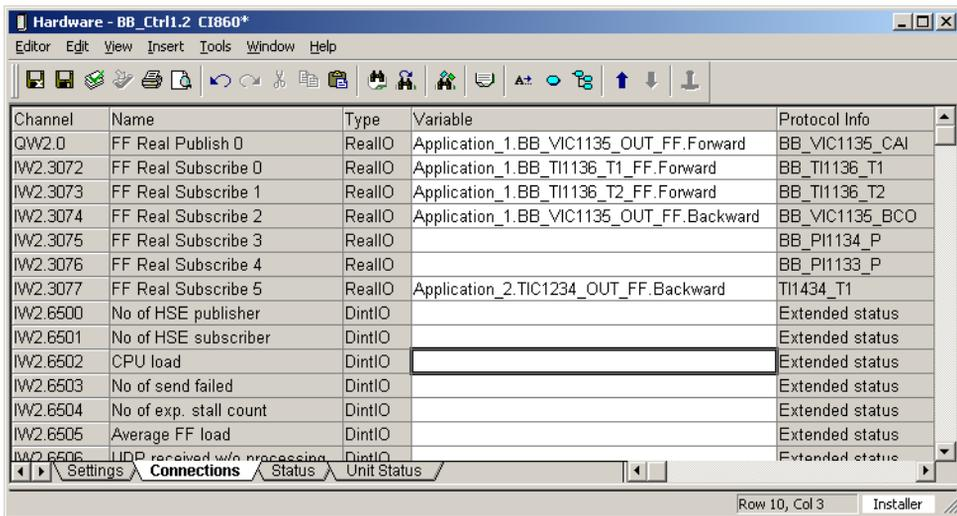

Figure 190. Hardware Editor of the CI860 Object
8. Open the hardware editor via the context menu by means of **Editor** (see Figure 190).